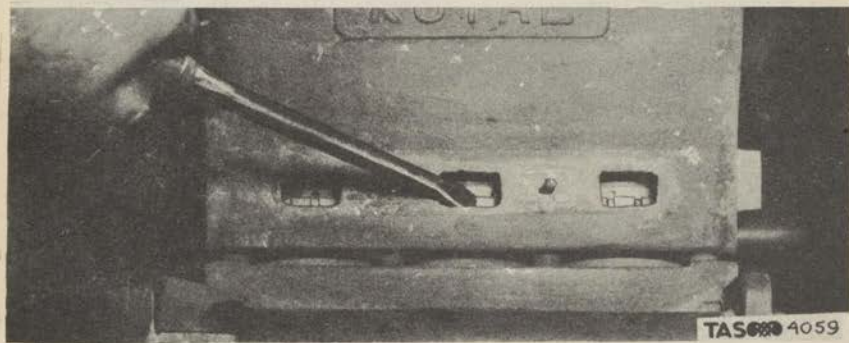

Figure 75. To Tighten - Insert Screwdriver in Notches and Turn to Right.
14. ADJUSTMENTS. a. Piston plunger rod packing. Each packing nut should be tightened a little about every 100 hours of operation. To tighten, remove the cover above the nuts, (fig. 74) insert a screwdriver in the notches provided in the nuts, and by prying, turn to right. (Fig. 75) When turned clear in, it will be necessary to disassemble the pump and install new packing rings - a third echelon task.